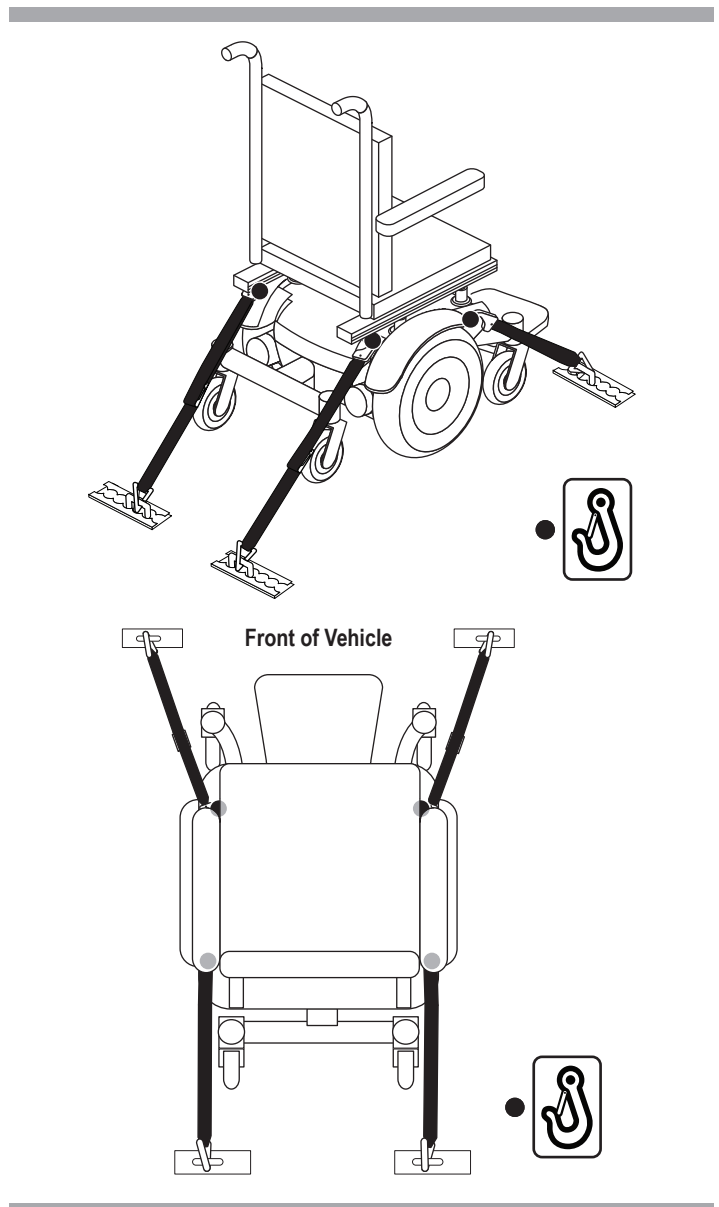

Figure 9. Unoccupied Transit System Securement Points
- Position the anchor point for the rear tie-down straps directly behind the rear securement points on the power chair. The front tie-down straps should be anchored to floor points that are spaced wider than the power chair to provide increased stability. **See figure 9.**